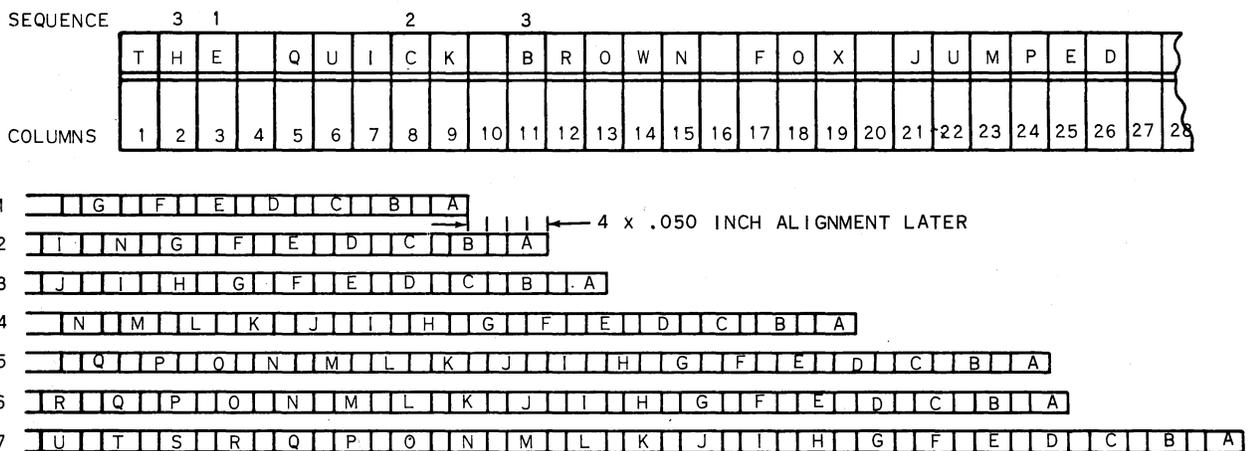

Fig. 45—Diagram of a Printing Sequence for an Actual Message
L. Printing Sequence (Fig. 45)
3.38 The printer logic is capable of storing two 80 or 132 character lines of information. When the first line is being printed, the second line is being stored. Printing begins as soon as the particular type pallet is aligned with the column which contains the corresponding character to be printed. Fig. 45 shows the first 27 columns with the stored message and progressive positioning of the type carrier to illustrate a typical printing sequence. In the first type carrier position shown, the pallet E lines up with the third column where an E is stored and the E is printed. The next printing, sequence 2, occurs four alignments later when C is printed in the eighth column. In the third sequence, both columns 2 and 11 are printed simultaneously. The process continues until all characters in the line are printed.